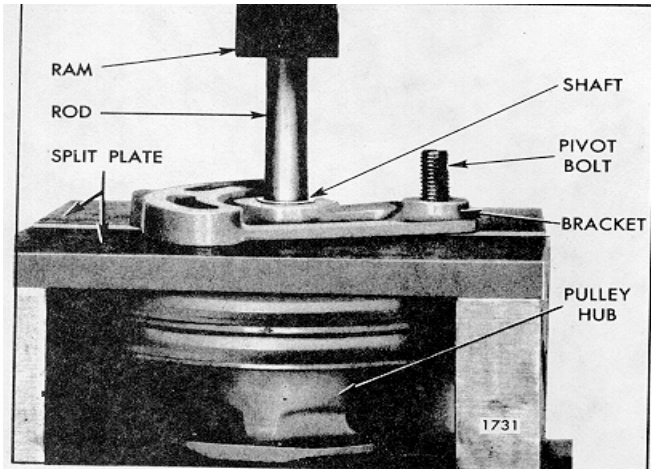

Fig. 3 - Removing Fan Shaft from Fan Adjusting Bracket
3. Place the hub and bracket assembly in an arbor press with the front face of the bracket supported on split plates so that the hub is clear of the bed of the press, as shown in Fig. 3. Place a brass rod between the end of the shaft and the ram of the press, press the shaft from the bracket. When the bracket is free, the bolt and lock washer may be removed from the bracket.